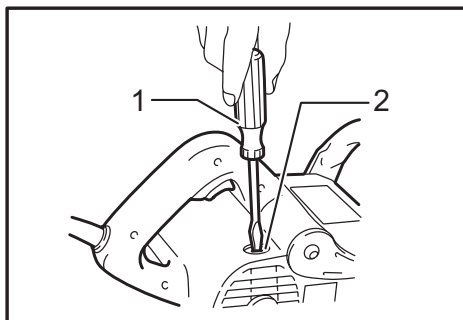

Fig.8
► **Fig.8:** 1. Screwdriver 2. Brush holder cap